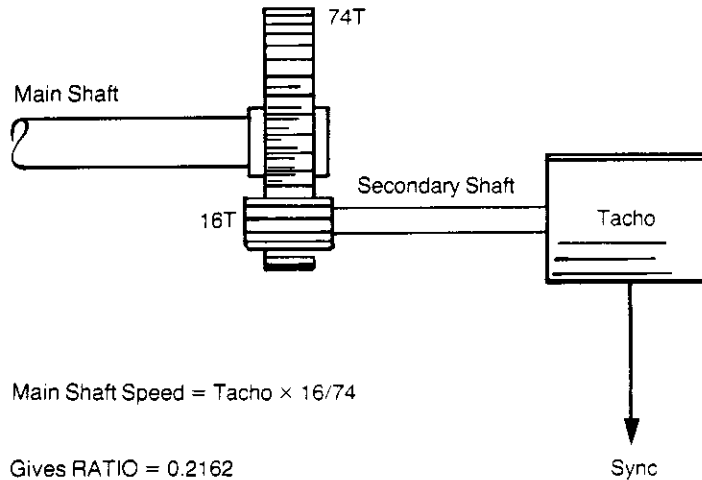

Fig. 15.1 Use of RATIO Mode for Indirect Synchronising
- b. Where no direct connection to the desired trigger signal source is possible. An example of this is shown in fig. 15.1, where the rotational speed of the main shaft can only be measured indirectly via a tachometer connected to a geared secondary shaft.